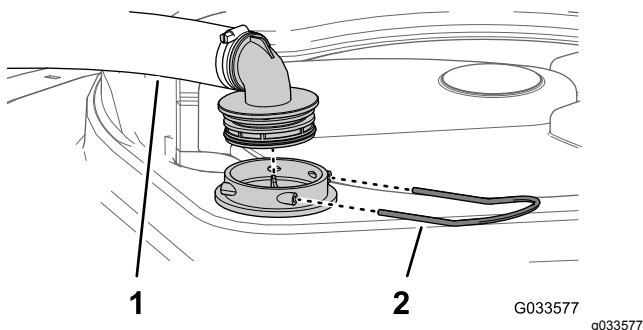

Figure 99
2. At the top of the sprayer tank, remove the retainer that secures the hose fitting attached to the large hose from the filter housing (Figure 99).
3. Remove the hose and hose fitting from the filter housing (Figure 99).